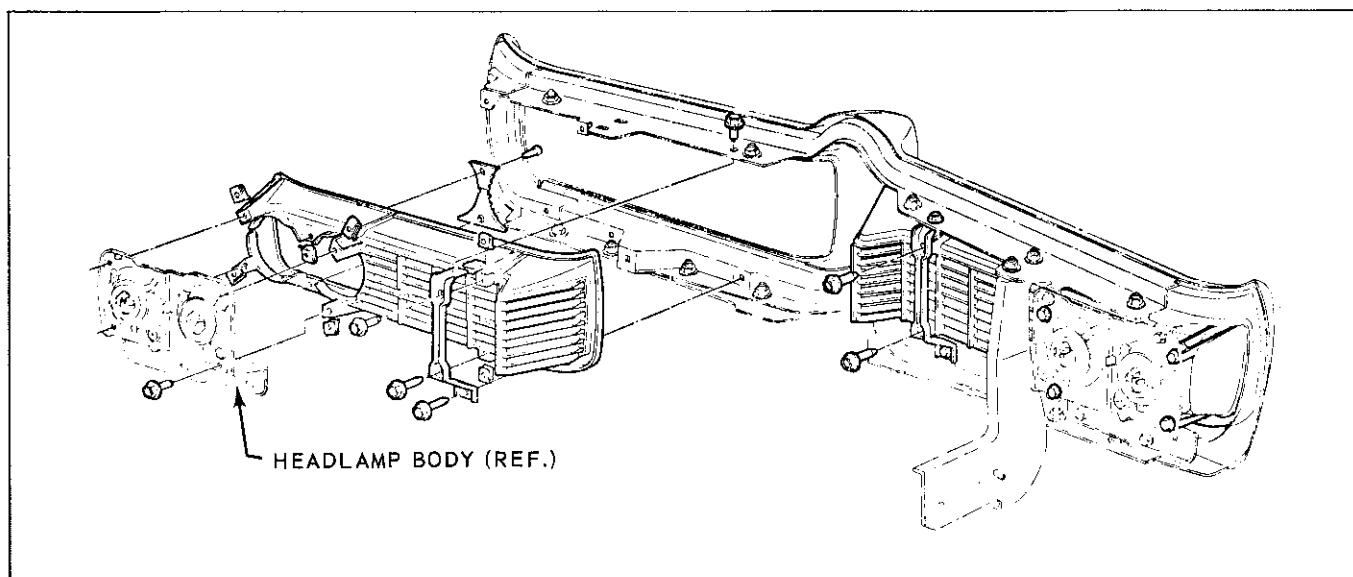

Fig. 14-7 Tempest Grille
6. Remove grille shells (Figs. 14-7 and 8).